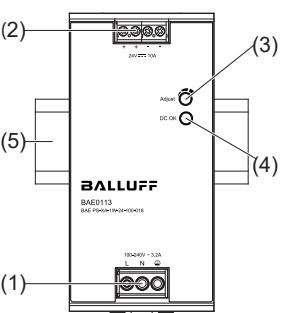
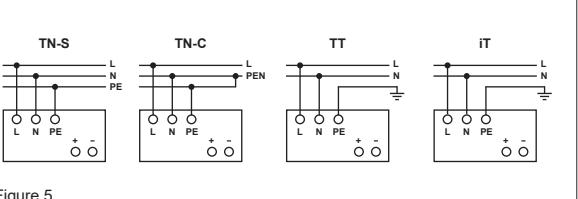

Figure 1
Figure 5
2. Device description (Fig. 1)
5.1. Input connection (Fig. 1, Fig. 5)
Use L, N and PE connections of input terminal connector (see Fig. 1 (1)) to establish the 100-240Vac connection.
5.2. Output connection (Fig. 1 (2))
Use the "+" and "-" screw connections to establish the 24Vdc connection. The output provides 24Vdc. The output voltage can be adjusted from 22 to 28Vdc on the potentiometer. The green LED DC OK displays correct function of the output (Fig. 1 (5)). The device has a short circuit and overload protection and an over voltage protection limited to 28.8-35.2Vdc.